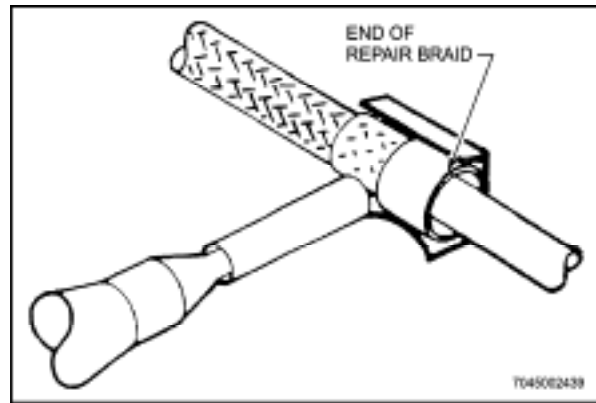

Figure 5-25 Heating Repair Braid
- r. Heat one end of the repair braid using hot air gun fitted with appropriate size reflector. Apply heat to the overlapping shield area until the solder melts and the sleeve shrinks onto the cable. Continue heating until solder flows into braid strands. Allow to cool undisturbed until solder solidifies (Figure 5-25).